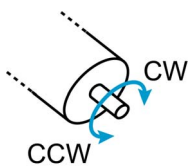

Figure 8-85 Adjustment of SSI commutation offset value | Check sense of rotation
- b) Turn the motor shaft by hand counterclockwise (CCW) as seen towards the motor's mounting flange (→Figure 8-85).